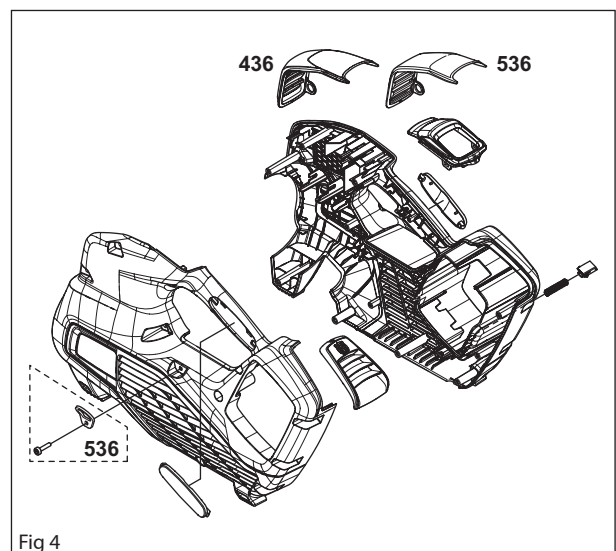

Fig 4
See figure 4
Loosen contact (B) from the motor and contact (C) from the ESD cable from the contact spring. See figure 4